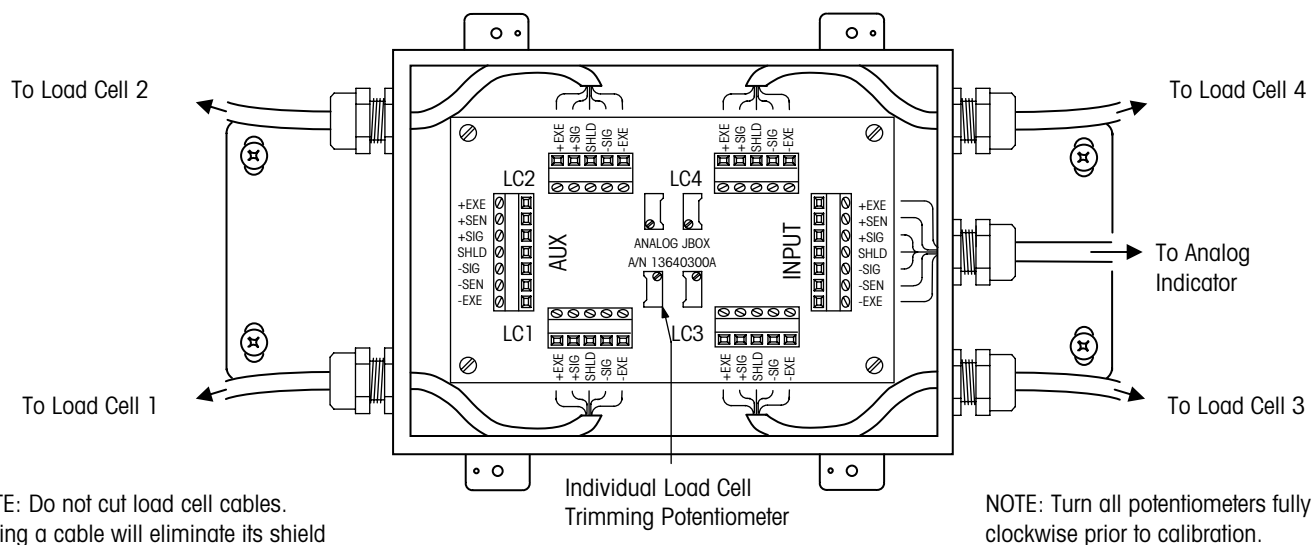
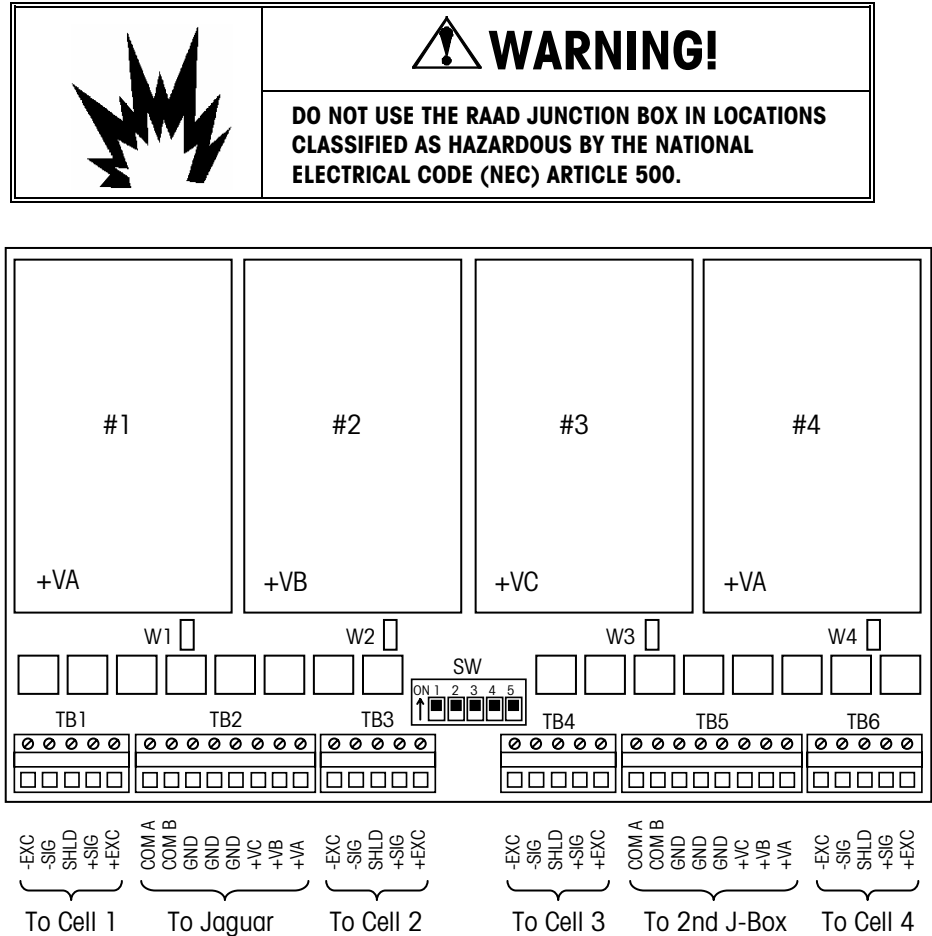

Figure 3-3: Analog Junction Box Detail
Figure 3-4: RAAD Junction Box Detail
Model 0970 weigh modules can be used with an analog junction box for summing the load cell outputs. Only analog-compatible indicators work with an analog junction box. See Figure 3-3 and Table 3-2 for cable connections.
Model 0970 weigh modules can be used with a RAAD junction box for summing load cell outputs. A JAGUAR® or JAGXTREME™ indicator must be used with the RAAD junction box. The indicator serves as the host for the RAAD junction box, allowing you to use the indicator's keypad to adjust scale parameters. See Figure 3-4 and Table 3-3 for cable connections. Load cell wiring for RAAD mode is the same as for analog mode.
1. Wire the home run cable to the PCB according to Figure 3-3 for Analog, Figure 3-4 for RAAD, or Figure 3-5 for IDNet.